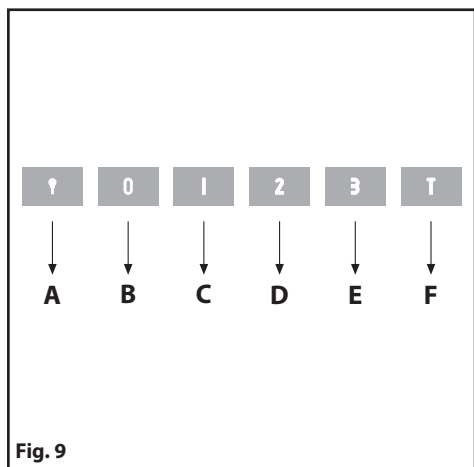

Fig. 9
• Commands (Fig.9) luminous the key symbols are explained below: